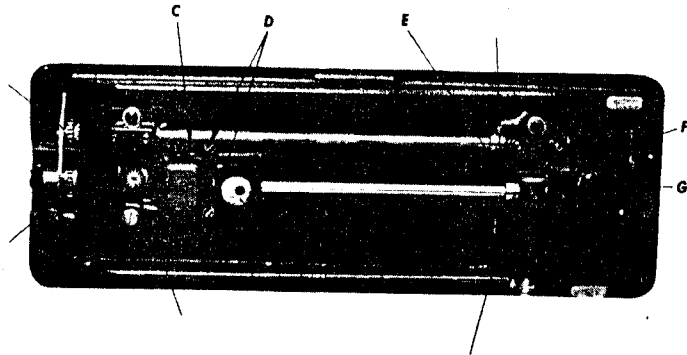

Fig. 13. Base View of Machine, Showing Oiling Points
Occasionally remove the cover (F, Fig. 13) and the screw (C, Fig. 13) of the gear cases on the underside of the bed of the machine and fill the gear cases with GEAR LUBRICANT, a grease. When removing the cover (F) be careful not to damage the paper gasket under the cover. If this gasket is torn, the grease will leak out of the gear case case when the cover is replaced.
In case the sewing hook is not correctly timed, remove the screw (C, Fig. 13) and loosen the two set screws in the hook driving gear thus uncovered, then turn the machine pulley over toward you until the needle bar has descended to its lowest point and has risen until the lower timing mark across the needle bar is just visible at the end of the needle bar frame. Now turn the sewing hook until the point of the hook is at the center of the needle, after which securely tighten the two set screws in the hook driving gear and replace the screw (C).
Remove the gear case cover (G, Fig. 13) and loosen the two screws in the hook shaft spiral driving gear thus uncovered, also loosen the screws in the collar (E, Fig. 13), then loosen the two screws (D, Fig. 13) and move the hook saddle toward or away from the needle, as required, after which securely tighten the two screws (D, Fig. 13), then move the collar (E, Fig. 13) over against the bushing and tighten its set screws. Tighten the two screws in the hook shaft spiral driving gear and at the same time hold the shaft to the right and the spiral gear to the left to eliminate any end play in the hook driving shaft.